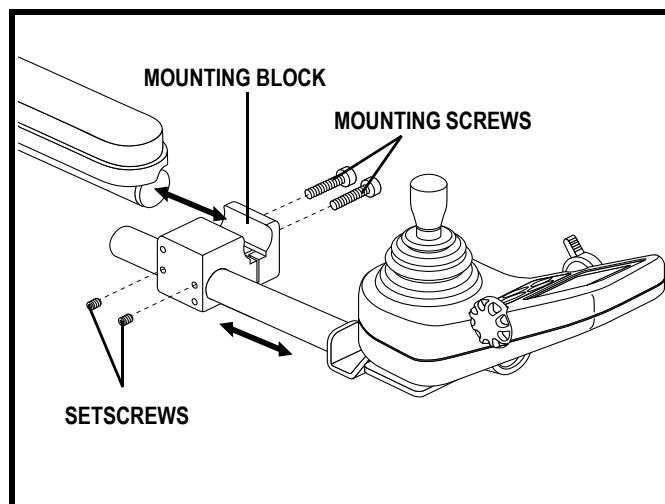

Figure 20. Adjusting Controller Position (Mounting Block)
NOTE: *If your power chair is equipped with a Specialty Seat, Synergy Seat, or TRU-Balance 2 Power Positioning System, loosen the setscrews in the mounting block, slide the controller in or out to the desired position, then tighten the setscrews. See figure 20.*
5. Loosen the mounting screws in the controller mounting block. See figure 20.